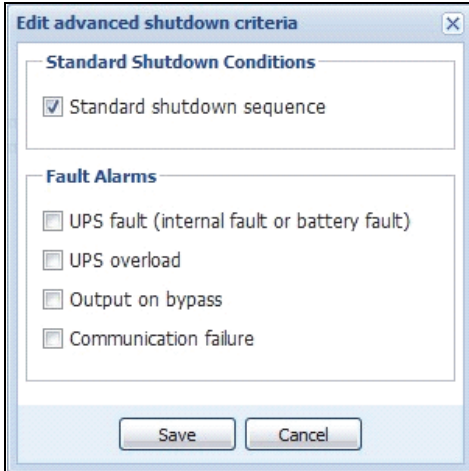

Figure 20. Edit Advanced Shutdown Criteria Dialog Box
- 3 Click **Edit advanced shutdown criteria**. The Edit Advanced Shutdown Criteria dialog box displays (see Figure 20).